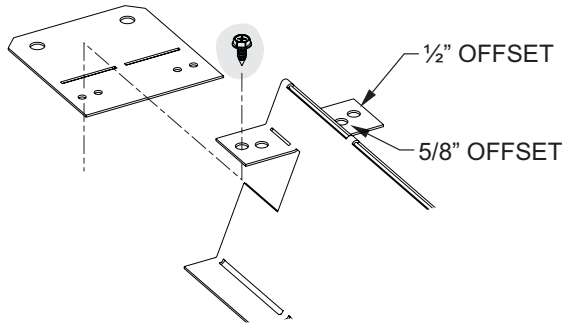

Figure 21
1. Attach four (SP) or five (PP) top-side nailing flanges to the top stand-offs as shown in **Figure 21**. Leave the nailing flanges flat at this time. Note that while the non-combustible board provided with this fireplace is $\frac{1}{2}$ " thick, some adjustment of the nailing flange position can be made by using either the outer or inner pair of holes.